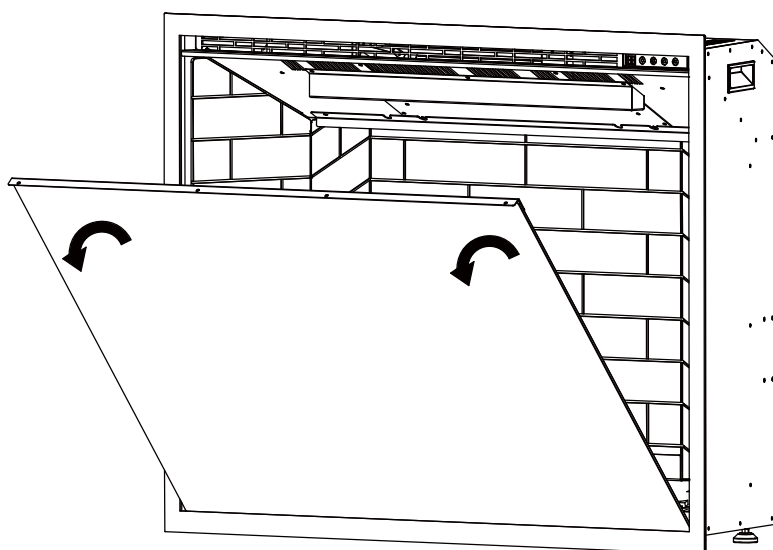

Figure. 2-2
- ② Carefully lift the front glass up and away from the appliance (Fig. 2-2). Place it face down on a soft, non-abrasive surface.
- ③ To reinstall the front glass, reverse these steps.